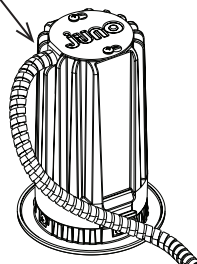

Figure 5
Step 7. Place connection back into top of LED trim module. Secure armored cable in "U" shaped opening of top cover and tighten screws to secure cover in place (Fig. 5).